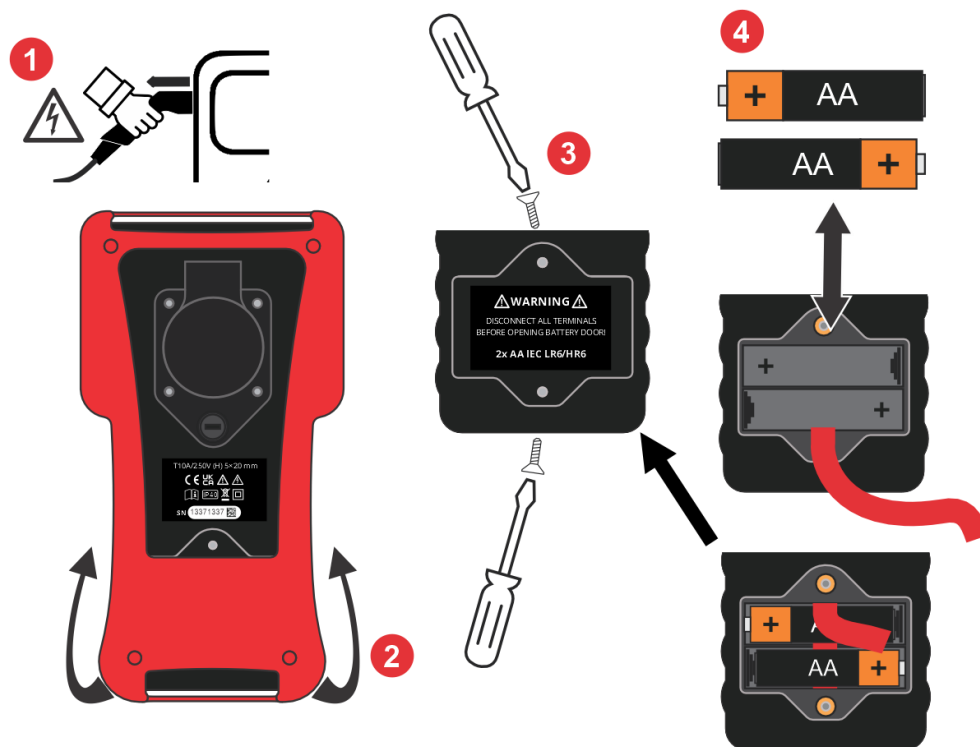

Figure 18: Battery replacement procedure.
- 4) carefully remove the used batteries by pulling the red ribbon and insert new ones of the specified type; make sure to position the red ribbon underneath them so that next battery replacement will be easier (refer to Figure 18),